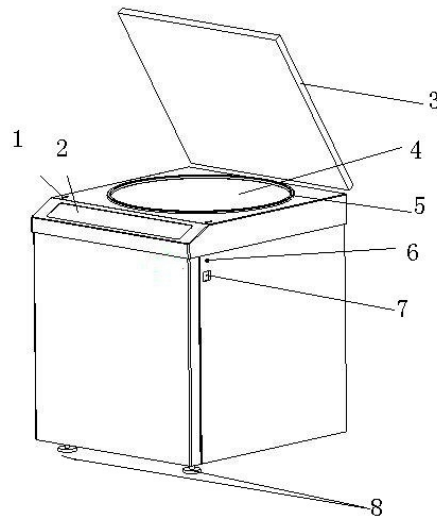

Fig. 1
legs, see Fig.1, the No. 8 indicated) , after you carry the machine to the ground, screw the screw which on the two adjust legs by the big spanner equipped (screw the screw toward the negative direction), do this process until you can remove the machine easily by pushing the machine, there are omni-directional wheels on the bottom of the machine. After you move the machine to its installation site, screw the screw which on the adjust leg towards the clockwise by the spanner until you can't remove the machine by pushing it to fix the machine.
**Emergency release**, there are two lines inside the machine, one is on the right side of the machine (see Fig. 1, No. 6 indicated, another is on the left side of the machine, its site is almost the same position like the right one), these two lines are used when power failure or something wrong with the lock. Unscrew these two nuts with the small hex wrenches which has been equipped, you can see a line connect to the nut, pull these two lines at the same time, after you hear a sound of unlock, the door of the lid will be unlocked, lift the lid is ok. This emergency release should not be used at ordinary time.